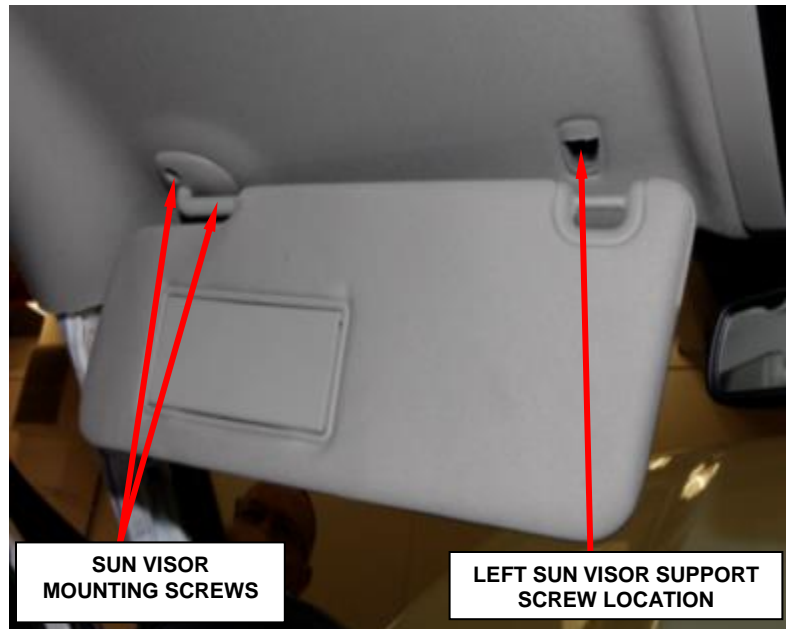

Figure 16 – Sun Visor
26. Remove and save the left and right side sun visor support screws and remove the sun visor supports (Figure 16).
27. Remove and save the left and right side sun visor mounting screws and remove the sun visors (Figure 16).